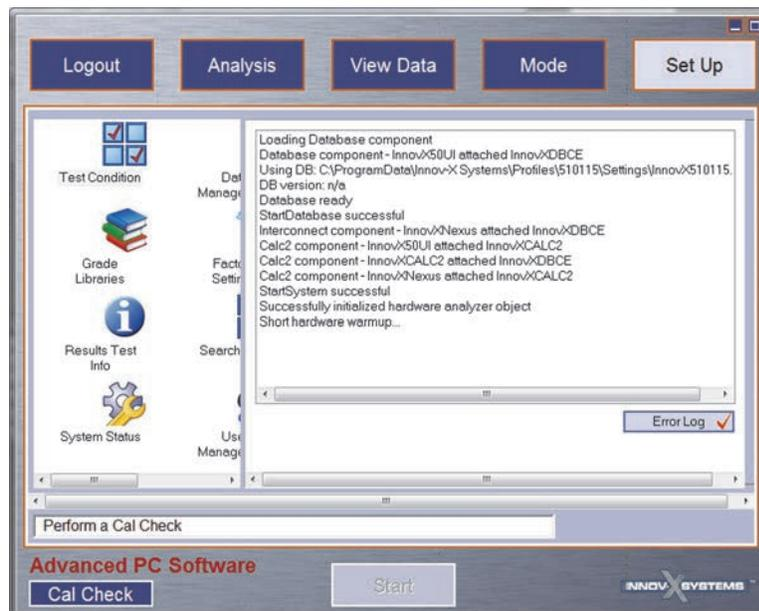

Figure 1-24 The Error Log pane
- Click the **Error Log** button () to display the **Error Log** information. The check mark on the Error Log button changes to red to indicate that the **Error Log** pane is currently displayed (see Figure 1-24 on page 20).